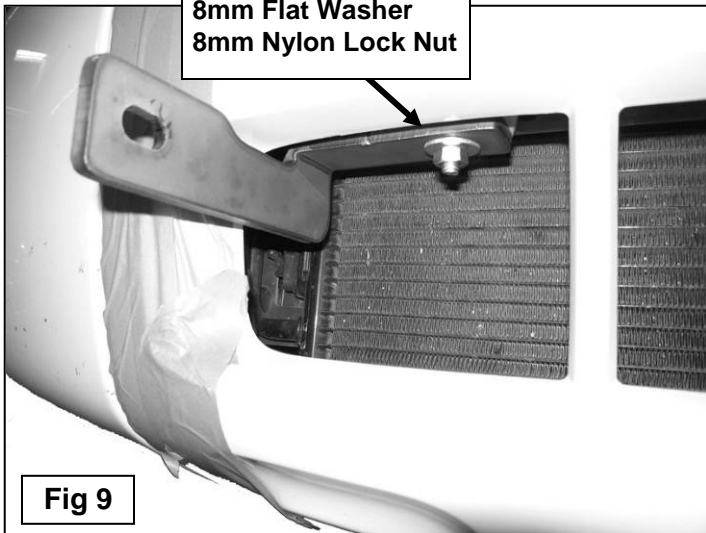

Fig 9
8. Select the passenger side Top Bracket and hang it from the previously installed Bolt Plate with (1) 8mm Flat Washer and (1) 8mm Nylon lock Nut, **(Figure 9)**. Do not tighten at this time.